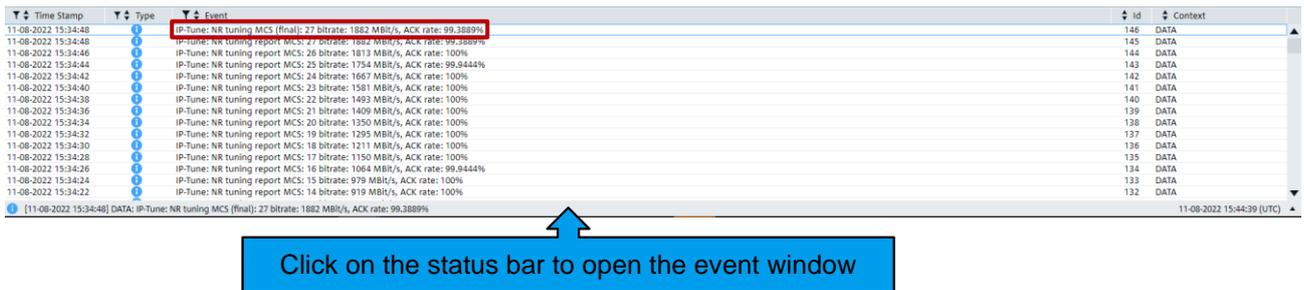

Figure 71 MCS tuning in IP Tune
- Press **▶** key to start IP Tune. Optimal MCS is tuned firstly. This can be observed in event window located at the bottom of the CMSquares (Click on the status bar opens the event window). Example shown in Figure 71 indicates that DUT is tuned with MCS 27 that achieves the maximum throughput of 1882 Mbit/s on MAC layer.